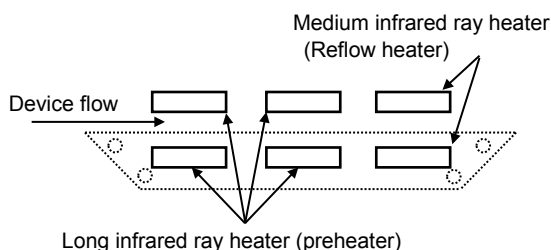

Figure 1 Heating the top and bottom with long or medium infrared rays
- (1) Heating the top and bottom with long or medium infrared rays is recommended (see Figure 1).